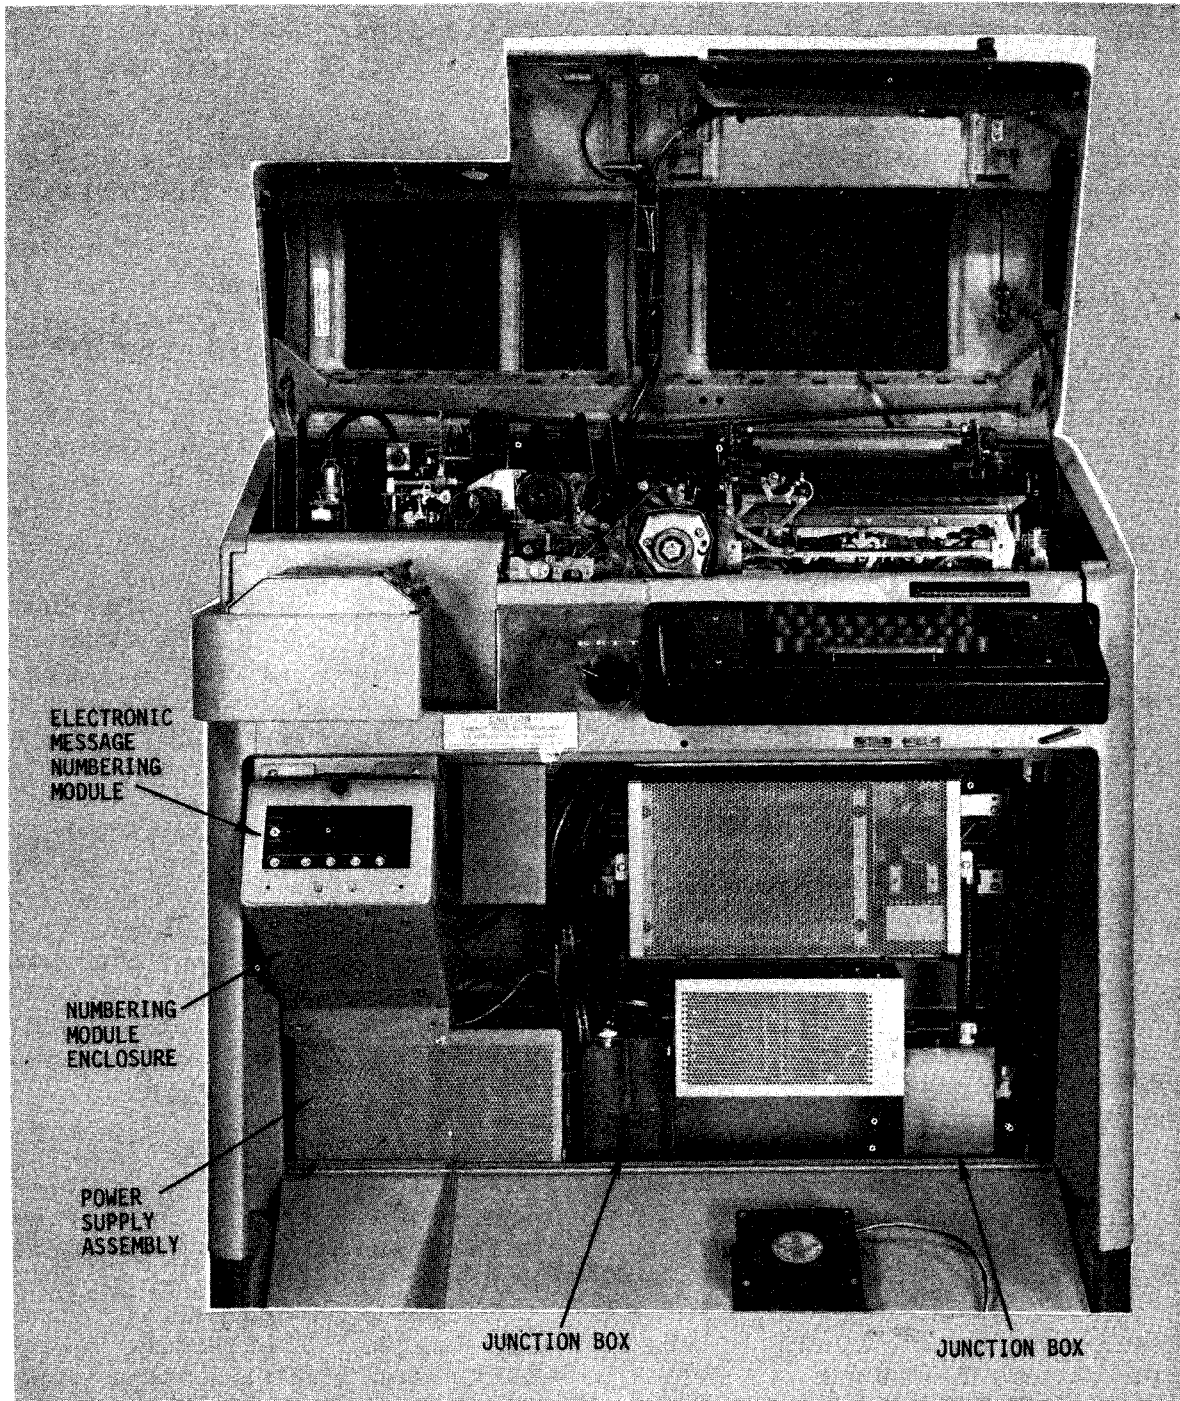

Figure 8-11. ASP Set With Electronic Message Numbering
a. ASR Set with Electronic Message Numbering. Perform the following low-level installation procedures. Refer to Figure 8-11.
(1) Two junction boxes are provided at the bottom of the cabinet. The right side junction box is for power, the left side junction box is for signal line input and output. It is also used for stepping signal (clutch) input.
(2) Power is distributed by means of three conductor shielded cables routed through flexible conduit.